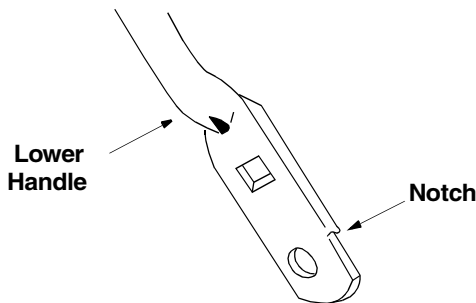

Figure 8
- Turn the lower handle around so the notches on the bottom of the lower handle are facing forward as shown in Figure 8. Reassemble, placing the bottom holes in the handle over the weld pins in the handle mounting bracket.